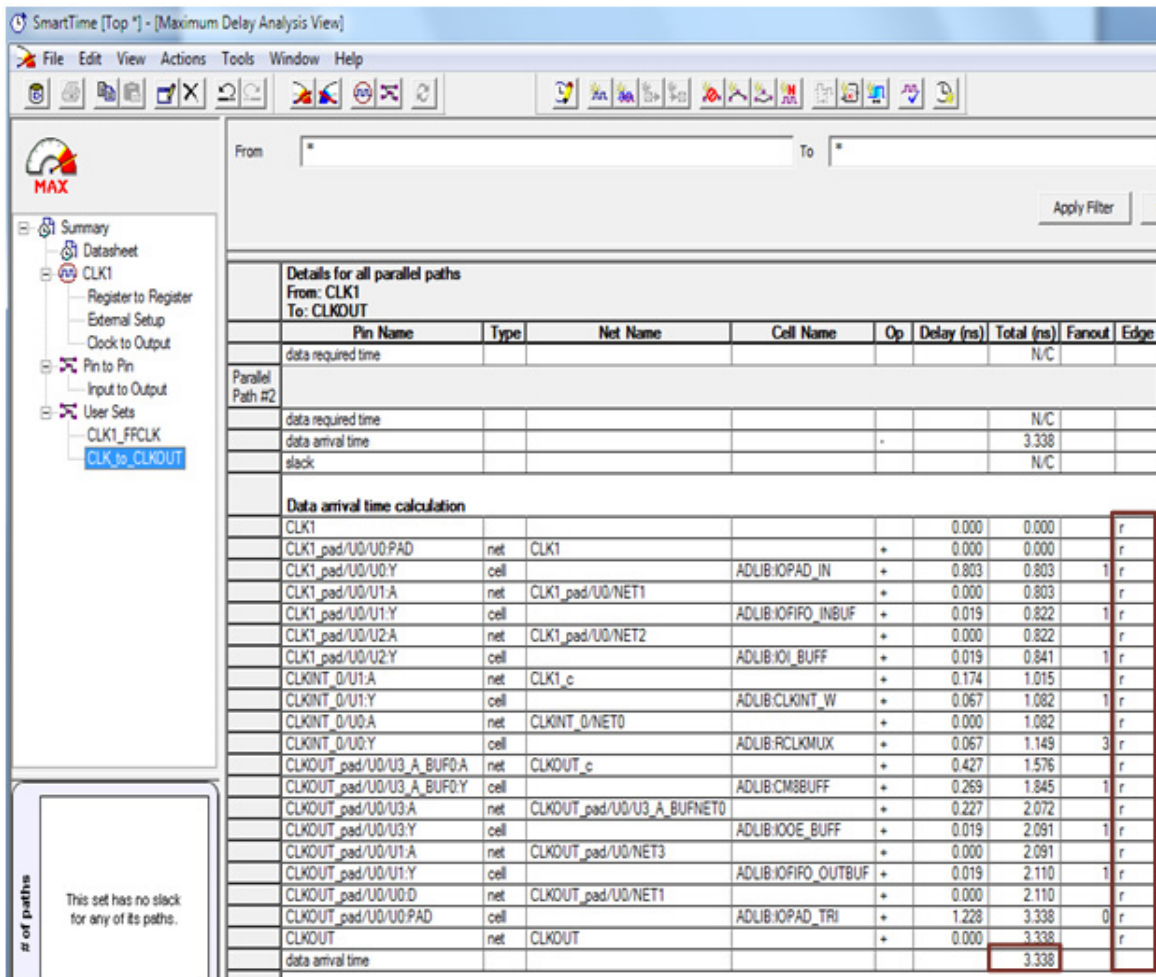

Figure 18 • SmartTime Showing CLK to CLKOUT Delay in Max Delay Analysis
- In the Maximum Delay Analysis view, get T_{max,best(clk)} from the CLK_to_CLKOUT path set, as shown in the Figure 18. Ensure that you extract the same edge as the clock path in the external setup, standard calculation. If the correct edge is not there, change the options in SmartTime to show more than one parallel path.